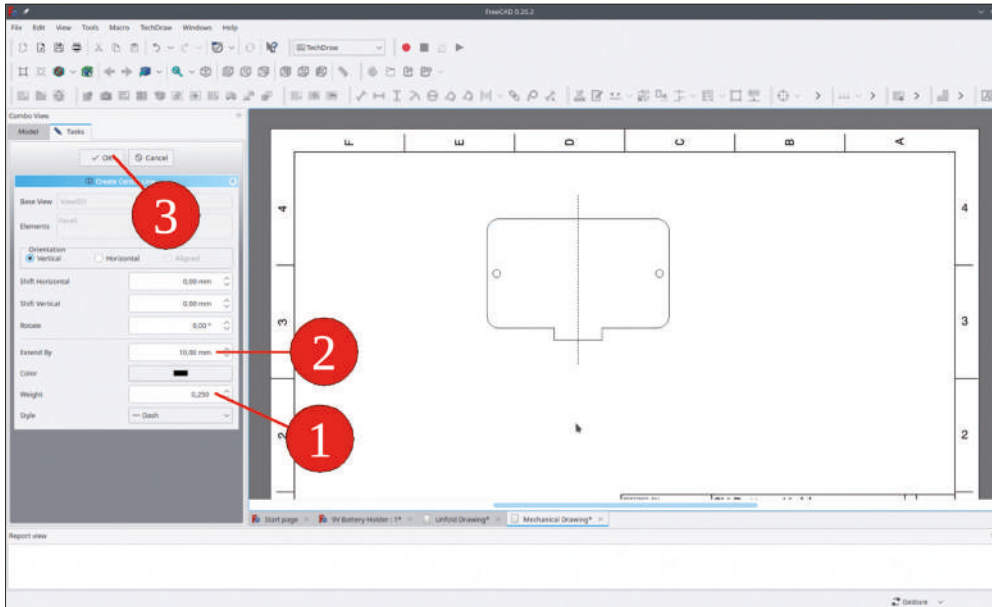

Figure 5-35
5. In the task window, select a weight (width) of 0.25 mm, and set the 'Extend By' parameter to 10 mm (Figure 5-35).